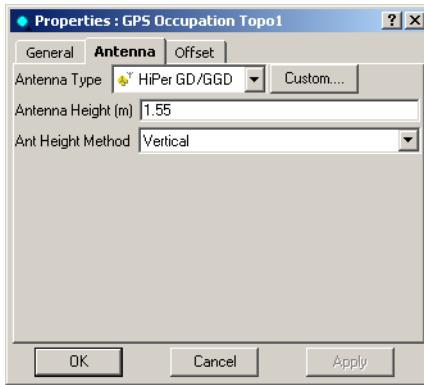

Figure 4-82. GPS Occupation Properties – Antenna Tab
3. On the **Properties** dialog box, click the *Antenna* tab (Figure 4-82 on page 4-62).
1. To add a new antenna type to the antenna list or to edit an existing antenna type, click **Custom** in the **Properties** dialog box for a GPS Occupation (Figure 4-82).